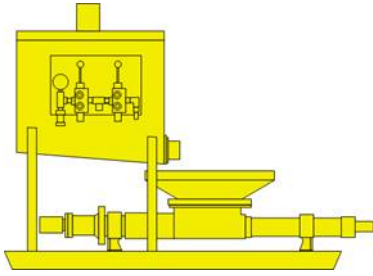

Figure 2. Progressive Cavity Grout Pump with attached mixer
4.4.1.3. Peristaltic or progressive cavity type pumps can also be used for placement of mixed batches of Chockfast Red HF in large quantities. (Figures 2, 3, 4) For additional recommendation on suitable pump options and sources, contact ITW Polymer Technologies.